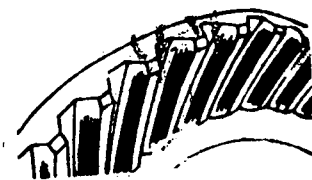

Fig. 7
- d) Observe the marks of the colouring on the teeth of the ring gear. These will show if the contact between teeth is correct (Fig. 7).